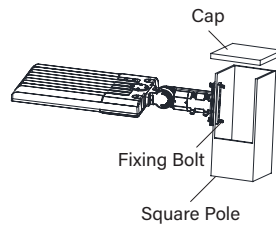

Figure 5
2. Secure the provided tenon to the pole using the installation bar and both rubber gaskets. (Figure 5) Open the cover to the slipfitter junction box area. Pull wires from the fixture and from source power, and connect properly. Close the junction box cover.